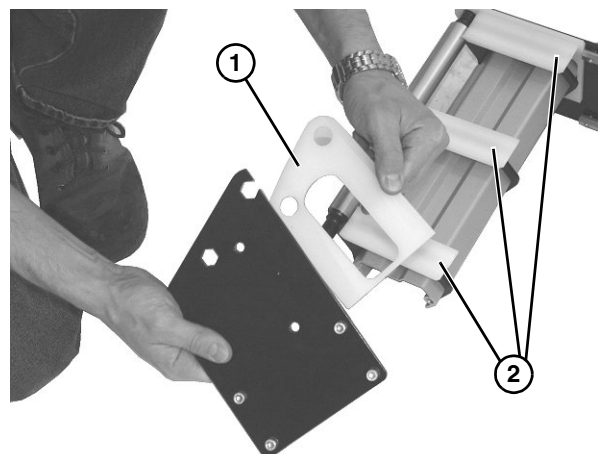

Figure 44
11. Check idler terminal assembly on each side (**Figure 44, item 1**) for wear. If worn, replace.
12. Remove and replace wear guides (**Figure 44, item 2**) if worn. When replacing, secure onto pins on each support plate.